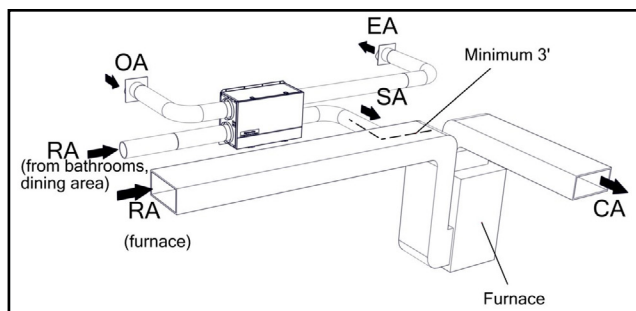

FIGURE 2.4.0 SEPARATE ROOM AIR PICK-UP—SUPPLY AIR TO FURNACE RETURN AIR TRUNKLINE
• FOR HOUSES WITH DUCTED HEATING OR COOLING SYSTEMS—SEE FIGURES 2.4.0, 2.4.2, AND 2.4.3.
• FOR INSTALLATIONS THAT COLLECT STALE AIR FROM SPECIFIC ROOMS IN THE HOME—SEE FIGURES 2.4.0 AND 2.4.1.
A RenewAire ERV can be used as a central exhaust system in place of bathroom exhaust fans. Tie a grille in each bathroom directly back to the ERV—see Figure 2.4.0. A successful installation should provide at least 50 CFM of exhaust per moisture producing bathroom. When used for bathroom exhaust, the EV130 should be used for no more than two bathrooms and the EV200 for up to four bathrooms. Install a control in each bathroom ventilated by the ERV.